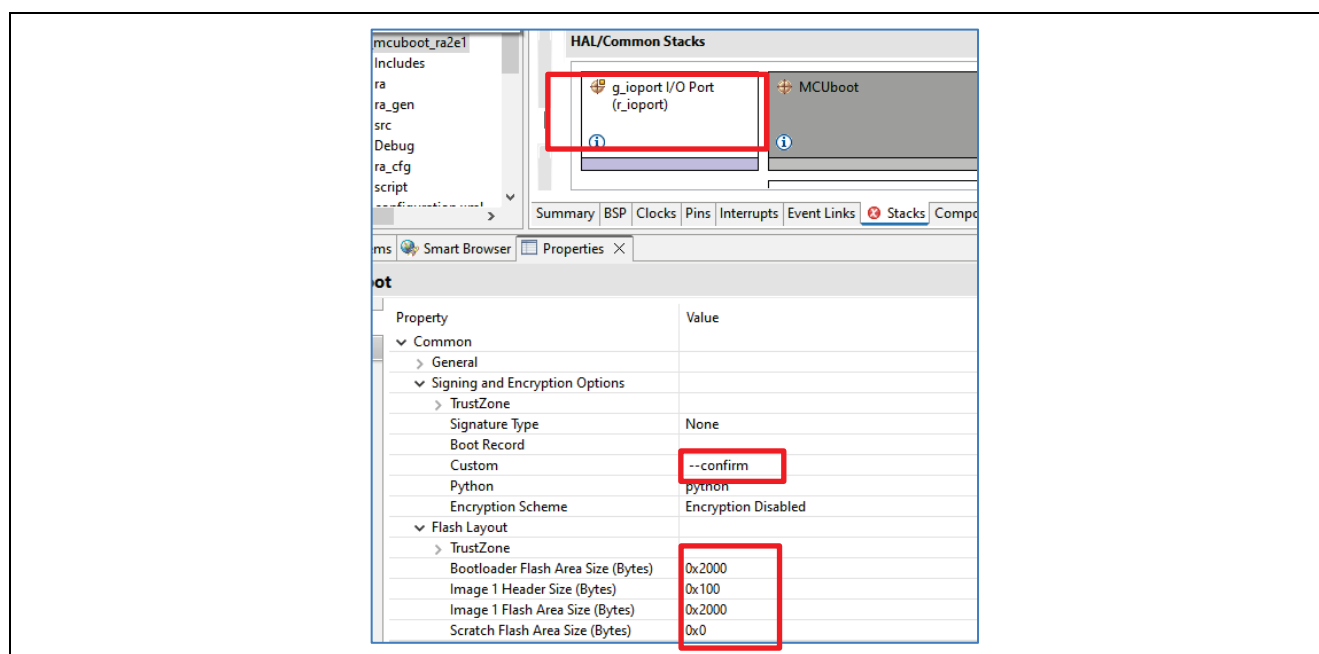

Figure 14. Update Configurations for Project `ra_mcuboot_ra2e1`
<code>ra_mcuboot_ra2e1</code>	Figure 14
- **NONE:** This option is selected for the bootloaders that do not support signature verification as shown in Figure 14 and Figure 16.